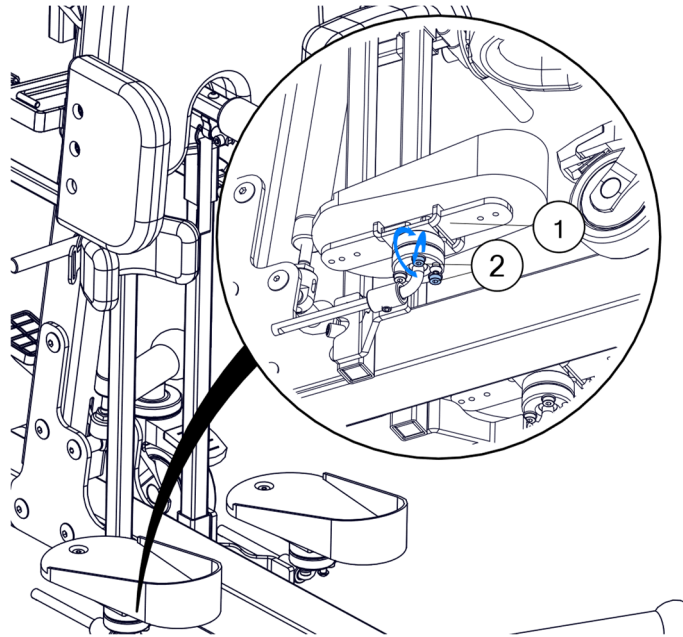

Fig. 14
In order to adjust the angle of the inclination of the foot platform (Fig. 14)(1) it is necessary to loosen the screws (2) of the platform's clamps. After setting the demanded angle, tighten the screw and hence block the rotation of the platform. This adjustment procedure should be performed independently for each of the foot platforms.